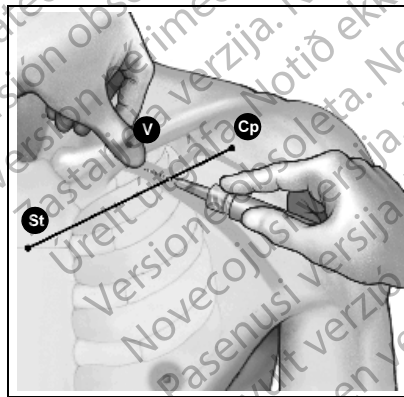

Figure 3. Location of thumb and needle entry.
4. Press a thumb against the index finger and project one or two centimeters below the clavicle to shield the subclavius muscle from the needle (when hypertrophy of the pectoralis muscle is apparent, the thumb should project about two centimeters below the clavicle because the subclavius muscle should be hypertrophied as well) (Figure 3).